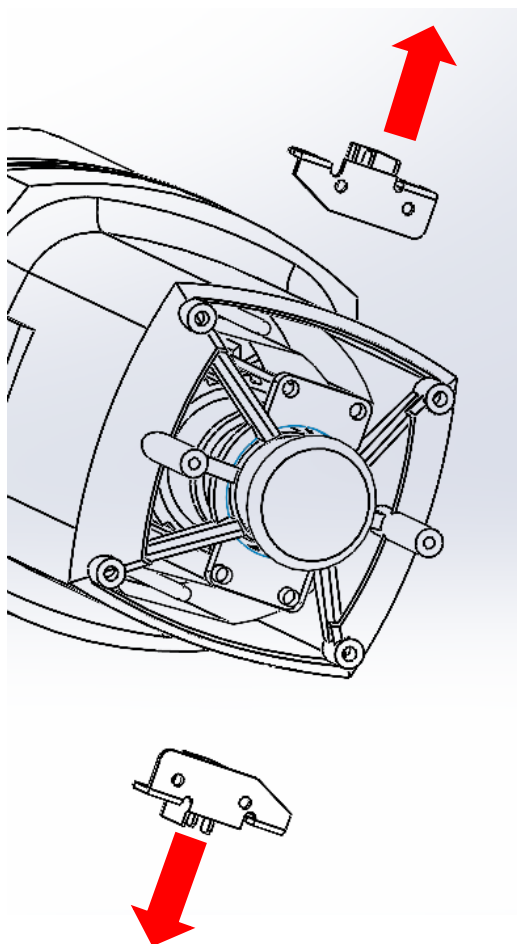

Figure 1.11
1.4.3 Proceed to remove the brush holders as in figure 1.11.